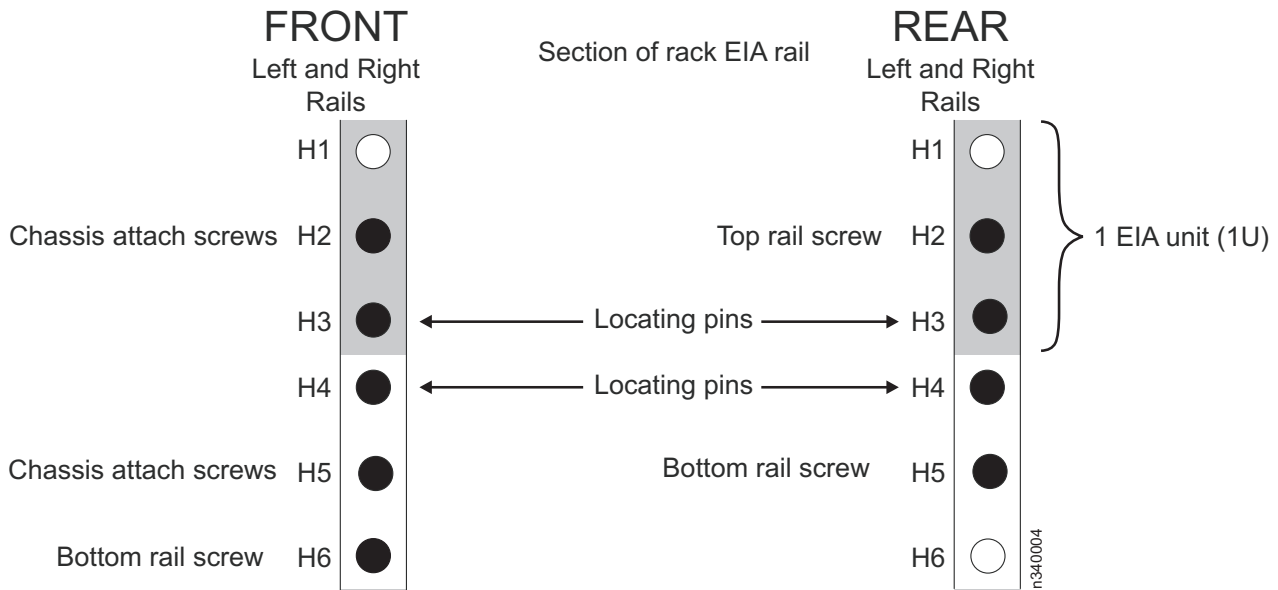

Figure 3. N3400 rail mounting template
2. Refer to Figure 3 on page 4. At the front of the rack, position the right-hand rail into the rack at the appropriate EIA location. Make sure that the two locating pins seat properly in holes H3 and H4. The bottom of the rail should line up with the bottom EIA boundary.